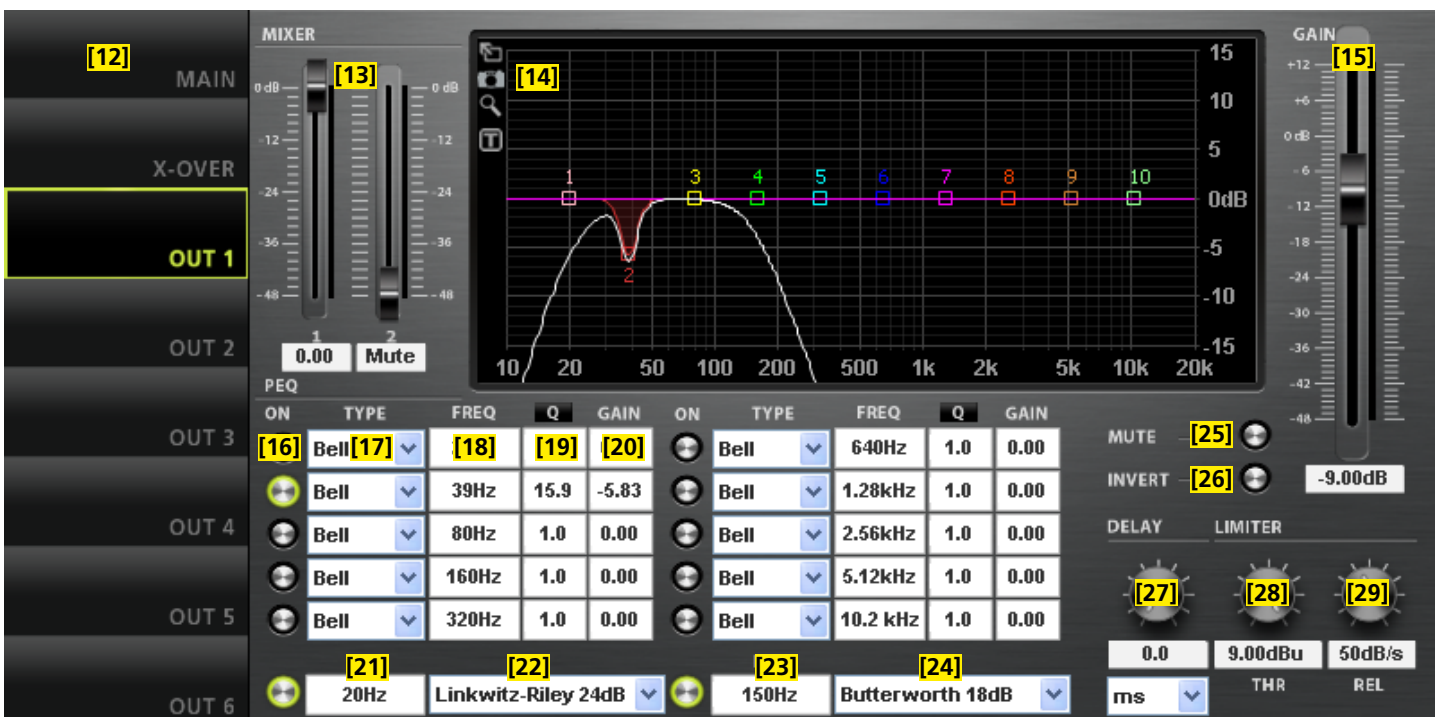
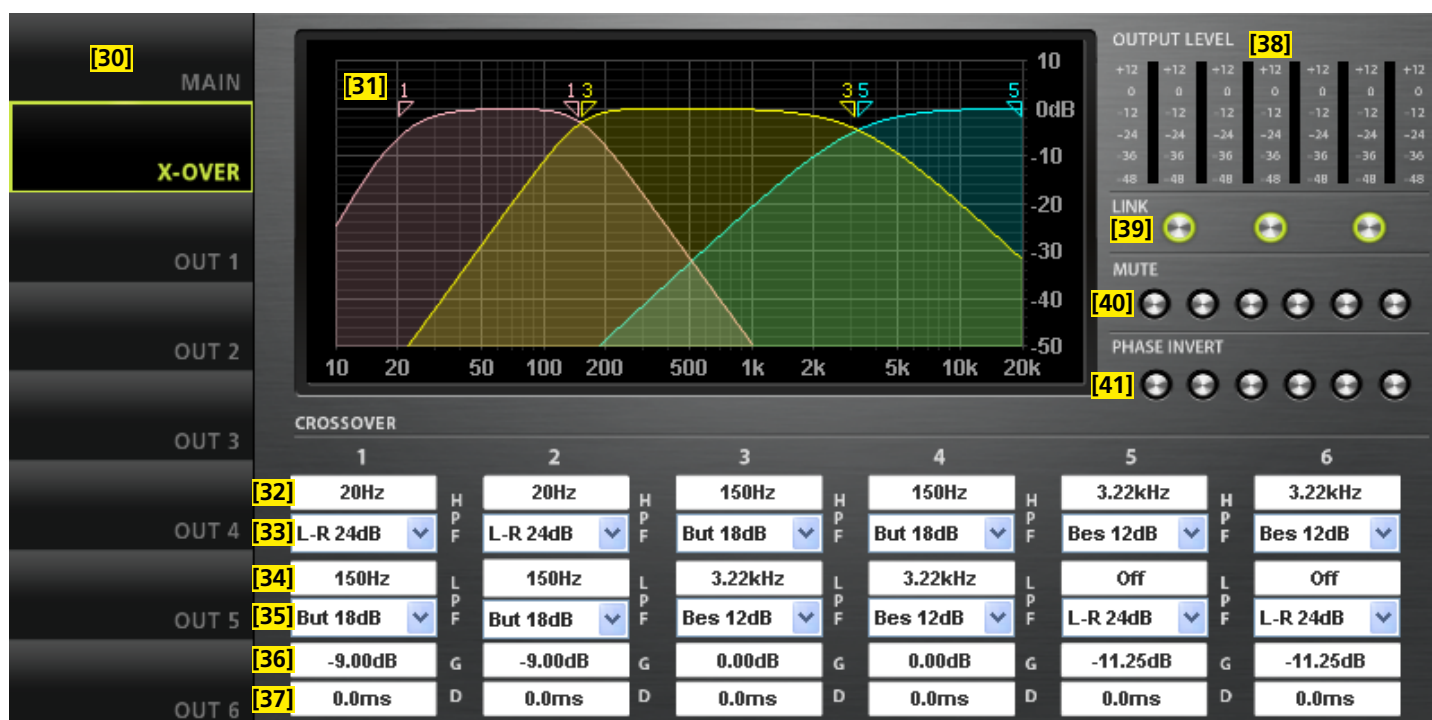

Fig. 11 View OUT 1
Fig. 12 View X-OVER
To go to the other views (X-OVER, fig. 12; OUT 1–6, fig. 11), use the buttons on the side bar [1]. To return to the main view, click the button MAIN.
6.3.3 View OUT 1–6 (fig. 11)
6.3.4 View X-OVER (fig. 12)